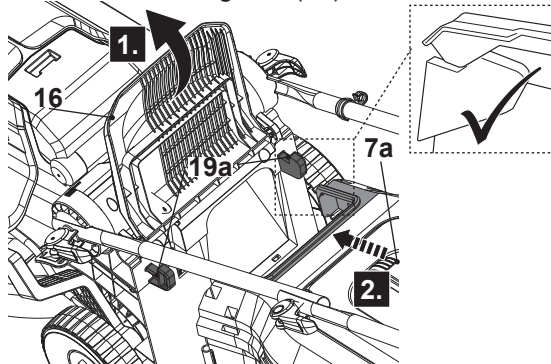

Fig. 7
4. Open the deflector guard (16) and hold it in position (Fig. 7, step 1).
5. Carry the grass catcher (7) by its carry handle (7a).
6. Align the support with the hooks (19a) and hang the grass catcher onto it (Fig. 7, step 2).
7. Carefully release the deflector guard (16) afterwards.